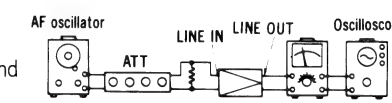

Fig. 33
- Test equipment connection is shown in fig. 33.